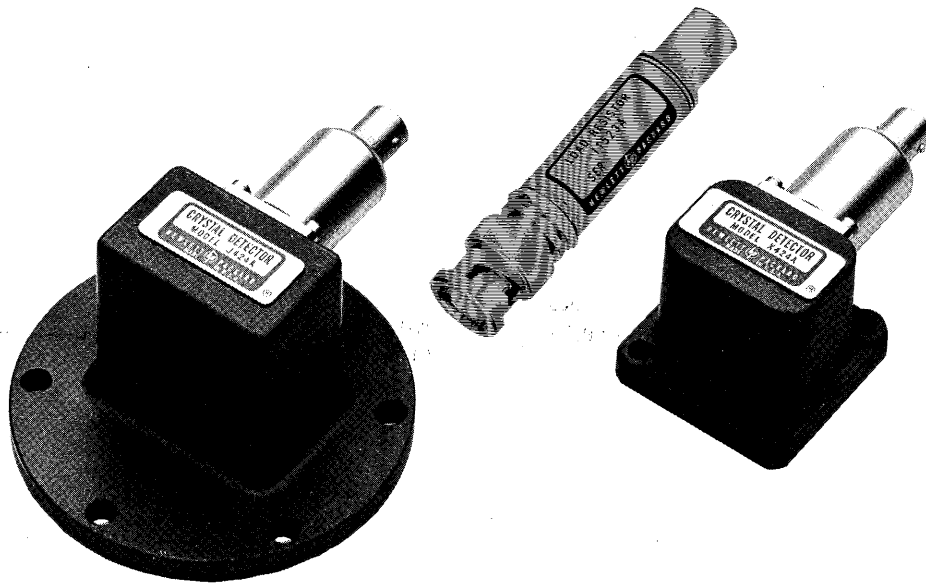

Figure 1. Models J424A and X424A Crystal Detectors with Model 11523A Load Resistor
2. The Model 424A Crystal Detectors are designed for use in waveguide systems in the measurement of relative microwave power upwards to 100 mW in the range from 2.6 to 18.0 Gc. Output polarity of the detected signal is normally negative but positive output polarity is available as Option 03. Complete specifications and listed options are given in Table 1. The J424A and the X424A are shown in Figure 1.
3. Separate housing of square-law load (Load Resistor, Option 02; see Figure 1) and detector permits easy conversion from optimum square-law response operation (with the Load Resistor) to maximum output sensitivity (without the Load Resistor). Each load is labeled with the serial number of the Model 424A detector to which it is matched. If you have more than one load (hp Model 11523A), always check that you are using the proper 11523A for the 424A in use.